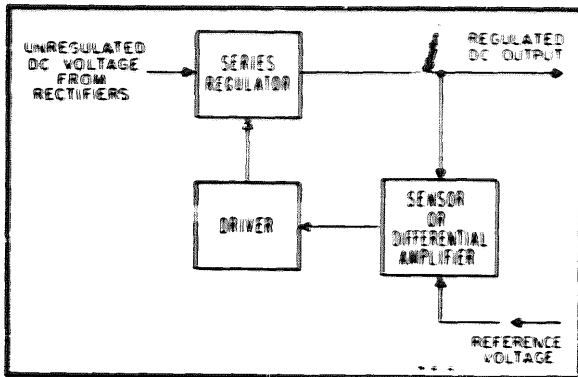

Figure 1-15. Regulated Power Supply Block Diagram
(1) The low-voltage supply consists of: -100 volt supply, -100 volt supply, +250 volt supply and -12.6 volt supply. The -100 volt supply is independent, and provides a reference voltage for the -100 volt supply. The -250 volt and -12.6 volt supplies are dependent on the -100 volt supply for reference voltages.
(2) Fig. 1-15 is a simplified block diagram of regulator used in the low-voltage supply. The series regulator acts as a variable resistance in the regulated output. A sensor (or differential amplifier) compares the output voltage with a reference voltage (dc return